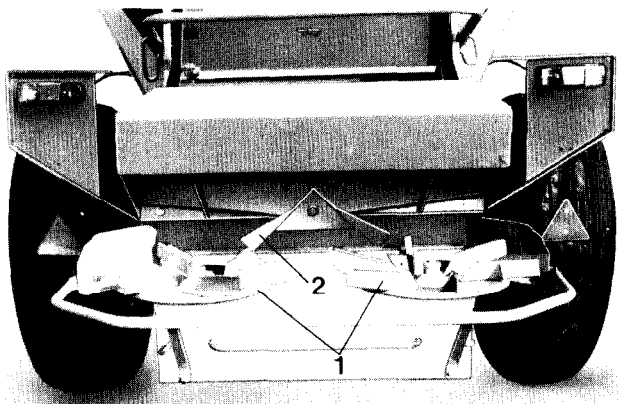
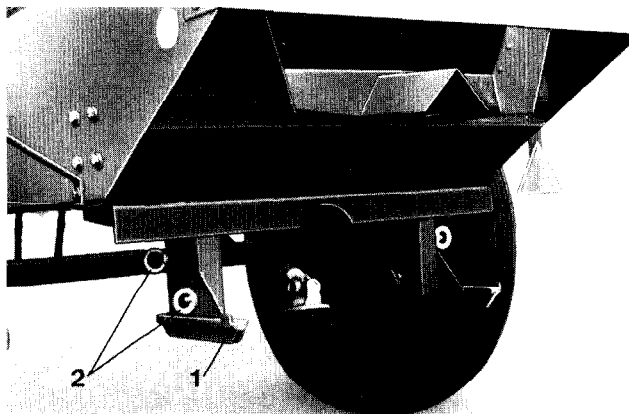
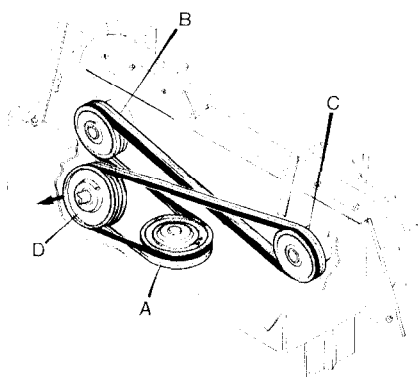
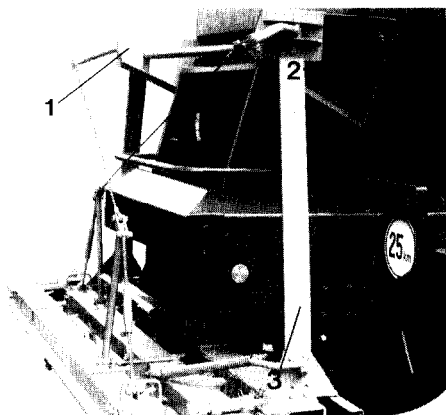

Fig. 7
Fig. 8
Fig. 9
Fig. 10
With the twin disc spreading unit (fig. 7/1) preferably granular, crystalline and moist fertilizers are spread. For fitting of the twin disc spreading unit it is pushed into the quick coupling (fig. 8/1) up to the stop and secured with thumb bolts and ring nuts (fig. 8/2). The p.t.o. shaft is pushed onto the flange of the free wheel of the gearbox and secured with 6 bolts.
For spreading of moist fertilizers, the supplied roof shaped shute (fig. 7/2) has to be removed (also see information in the spreading chart). The twin disc spreading unit is driven in a closed gear box by three V-belts (fig. 9). It is important that the V-belts have the prescribed belt tension, as otherwise premature belt wear occurs.
1. Take the first V-belt from the rear groove of pulley A from behind over the upper groove of pulley B, from behind over the upper groove of pulley C. V-Belt. Course of V-belt see fig. 9.
The bracket (fig. 10/1) for the worm auger has to be fixed with three bolts (fig. 10/2) on the hopper of the ZG-B. Then push the worm auger into the quick coupling (fig. 8) and secure with T-screws and ring nuts. We recommend our fitting trolley which makes fitting easier. The carrying arms (fig. 10/3) are fitted at the left and right side to the bracket of the worm auger so that the worm auger is suspended parallel to the surface on which the bulk fertilizer broadcaster stands.